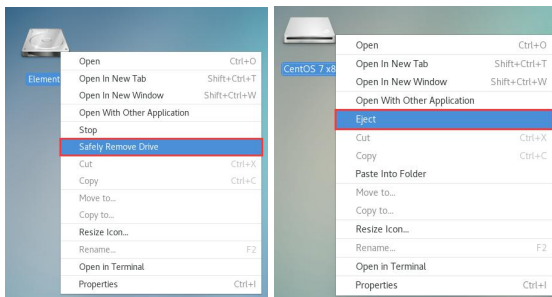

Figure 3-22 Uninstalling the HDD/U disk
- 6) Finally, uninstall the mobile storage device. Close the mounted removable storage device window. For removable hard disks, right-click the icon and select **[Safely Remove Drive]** (Figure 3-22 left); for U disk, right-click the icon and select **[Eject]** (Figure 3-22